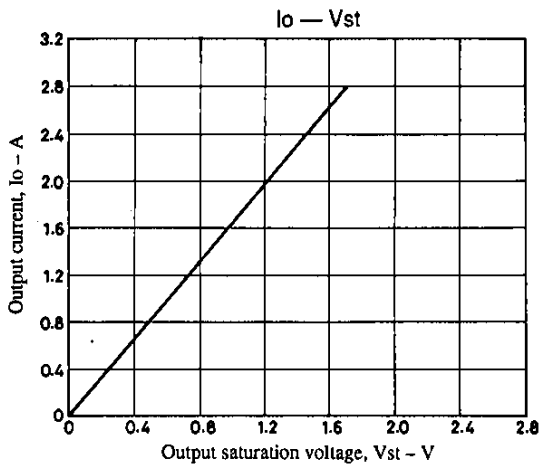

Fig. 8
The characteristic diagrams (typ) for I_{OH} and V_{st}, and I_{OH} and V_{df} are given in Figs. 8 and 9.
Referring to Figs. 8 and 9, each value for Vst and Vdf is determined by expression (10) as follows :